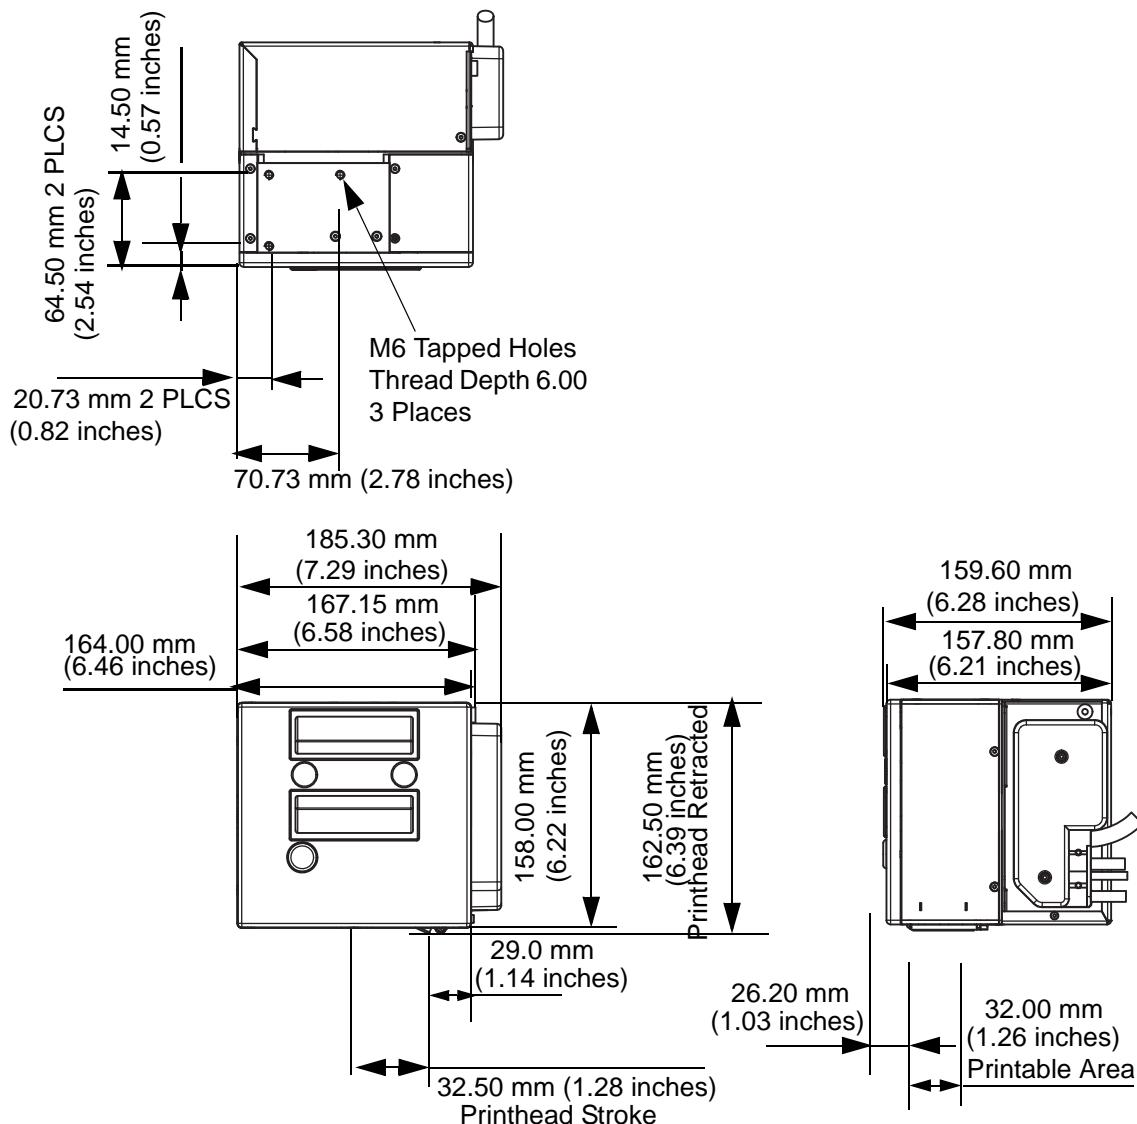

Figure 6-2: Videojet 6210 30 mm LH Printer Dimensions
Figure 6-2 shows the dimensions of the Videojet 6210 30 mm (LH) printer.